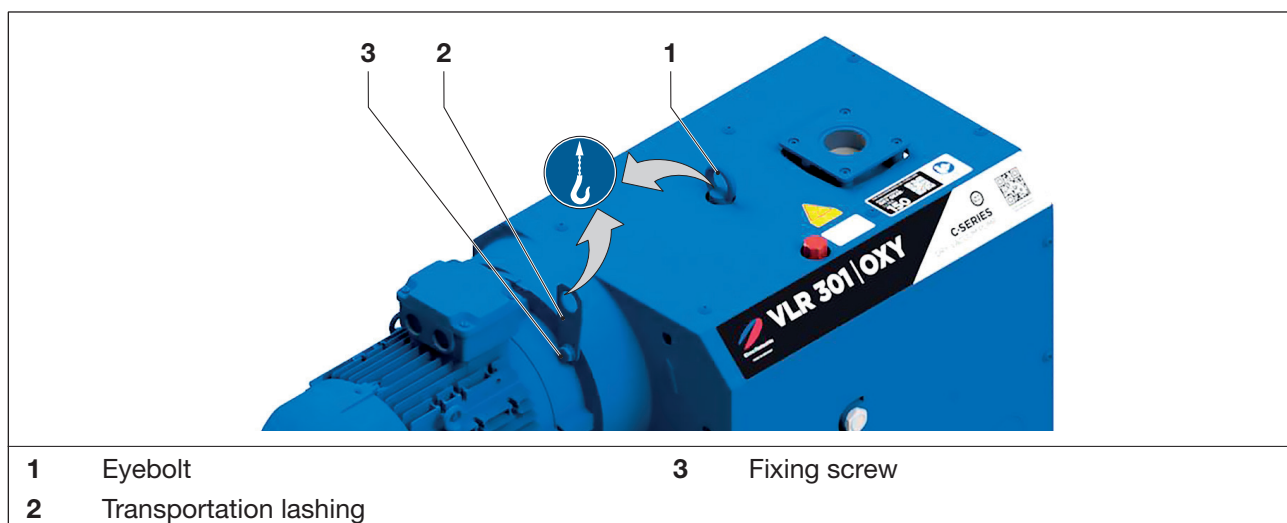

Fig. 1 Load handling equipment for lifting and transporting
- b) Tightly fasten the eyebolt (Fig. 1/1) and the fixing screw (Fig. 1/3) on the transportation lashing (Fig. 1/2).